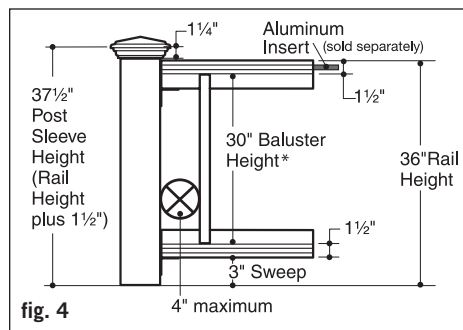

fig. 4
Step 5: Trim 4x4 post sleeves to length. Post sleeves should be a minimum of 1-1/2" longer than the railing height (Figure 4). Example – for a 36" high railing, trim post sleeve to a minimum of 37-1/2", can be left longer if desired.
Step 9: Position the bottom rail between posts. Check building code requirements for a maximum spacing between deck surface and bottom of rail (sweep). 3" is recommended but can be more or less if codes allow (Figure 4). Mark screw locations on-center of post sleeve using the bracket as a template and pre-drill using a 1/8" drill bit. Attach bracket to the post with (4) 2" long screws at one end of bottom rail. Level bottom rail and repeat marking and pre-drilling the post sleeve for the other end. Attach to post with (4) 2" long screws.
Step 11: Determine the length of the balusters (Figure 4). Figure 4 illustrates how a 36" high railing might be sized. Starting with a 3" sweep plus 1-1/2" for the bottom railing, 30" baluster height plus 1-1/2" for the top rail equals a 36" rail height.
If these are the dimensions that you are going to use, cut the balusters to 30" length using a cut-off or table saw. 42" railings use 36" balusters. If you want to have your railing at a different height, use Figure 4 as a planning tool to determine the height to cut the post sleeves and the balusters. Note: Use a fixture to ensure a consistent length (+/- 1/16").
Étape 5 : Taillez les manchons de poteaux 4x4 pour la longueur. Les manchons de poteaux devraient être d'au moins 1 1/2 po plus longs que la hauteur de la rampe (figure 4). Exemple – pour une traverse de 36 po de haut, taillez le manchon à au moins 37 1/2 po, mais peut être plus long si vous le désirez.